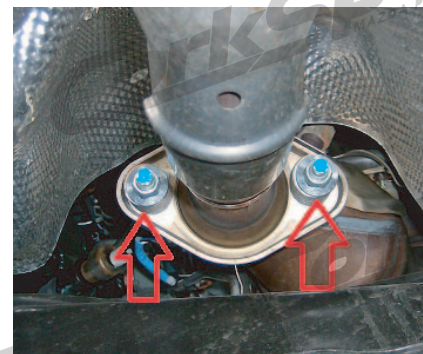

Figure 1D
D) Using a 14mm long socket, 6" extension and ratcheting wrench, remove the two (2) nuts holding the factory mid-pipe section to the header pipe (red arrows in Figure 1D).